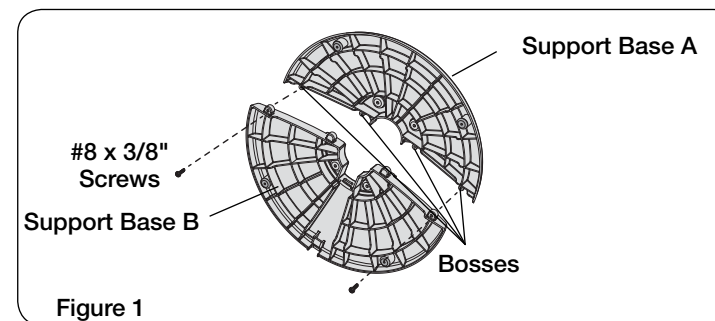
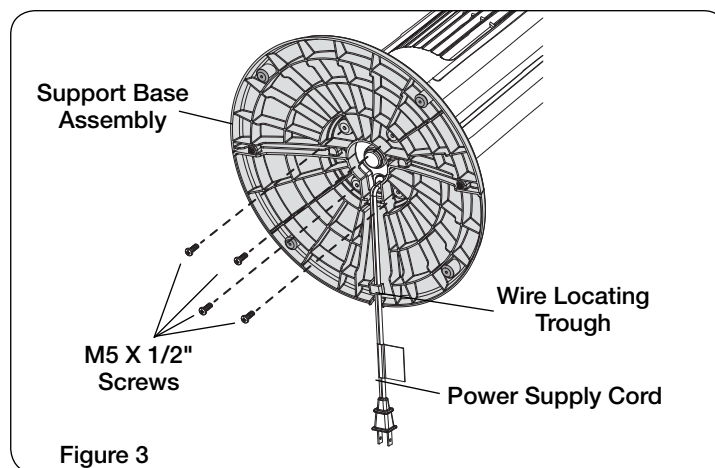

Figure 1
Figure 3
2. Assemble the Support Base Halves by interlocking the Bosses on Support Base A into the Boss Holes on Support Base B. Thread the Power Supply Cord through the large hole in the center of the Support Base Assembly. (Figure 1)
4. Align the Support Base Assembly with the Motor Base, noting that the cord channel on the bottom of the support base assembly should be towards the back of the Fan. Attach the Support Base Assembly to the Motor Base with 1/2" Long M5 Screws. Make certain to align the Key on the Support Base Assembly with the Locating Notch on the Motor Base. (Figure 1) Gently pull any excess slack of the Power Supply Cord and place it in the Wire Locating Trough. (Figure 3)